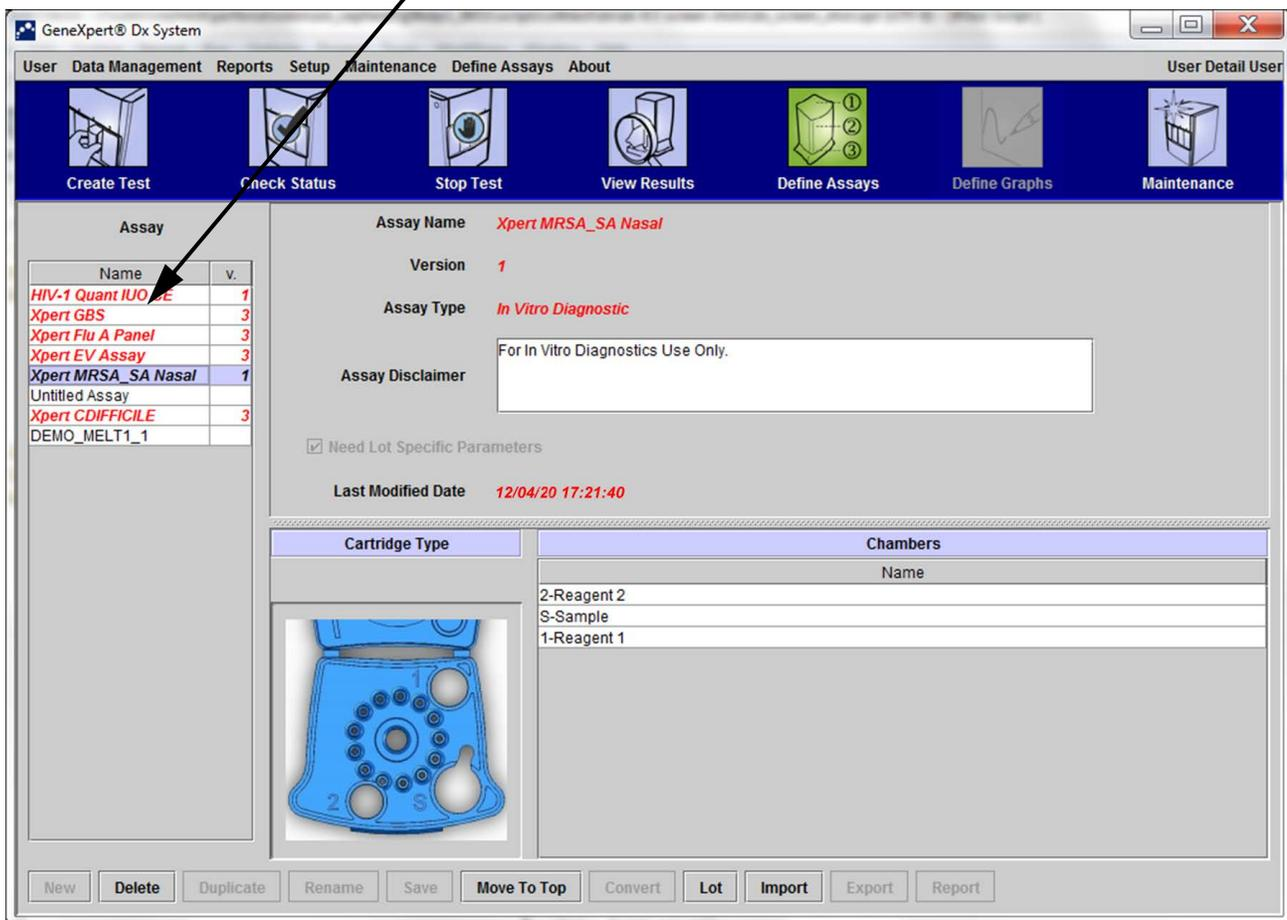

Figure 5-17. GeneXpert Dx System—Define Assays Window
1. In the GeneXpert Dx System window, click **Define Assays**. The Define Assays window appears (see Figure 5-17).